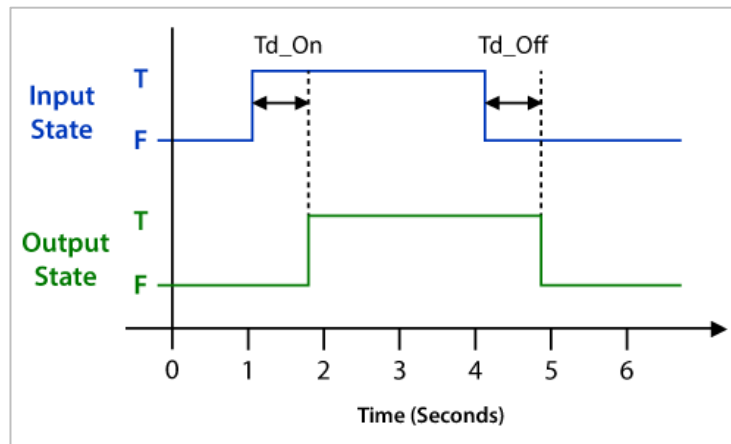

Figure 16
In Hardware I/O Mode, the module functions like a relay module, in which input signals drive corresponding output signals. When a given input is connected to power or ground, the input state is set to TRUE. Then, after the user-specified On-Delay time ( $Td_{On}$  in Figure 16), the state of the corresponding output changes to TRUE (for digital outputs, that means the output turns on; for PWM outputs or current outputs, that means the output is set to the specified output Duty Cycle or Output Current, respectively (see Physical parameters 54-61 in *List of*
*Hardware I/O Mode Parameters* below). When power or ground is removed from the input, the input floats at half the system voltage, which sets the input state to FALSE. After the user-specified Off Delay time ( $Td_{Off}$  in Figure 16), the output state then changes to FALSE.